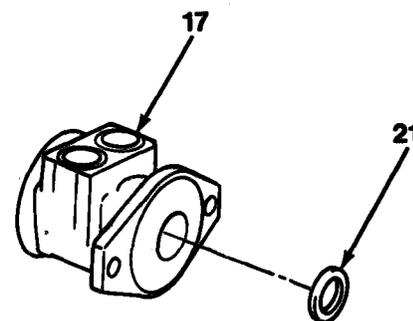

Figure 13-7
9. Remove swing motor from vise and place on a clean flat work surface with mounting flange up. Remove dirt and water seal (21) from housing (17, Figure 13-7).